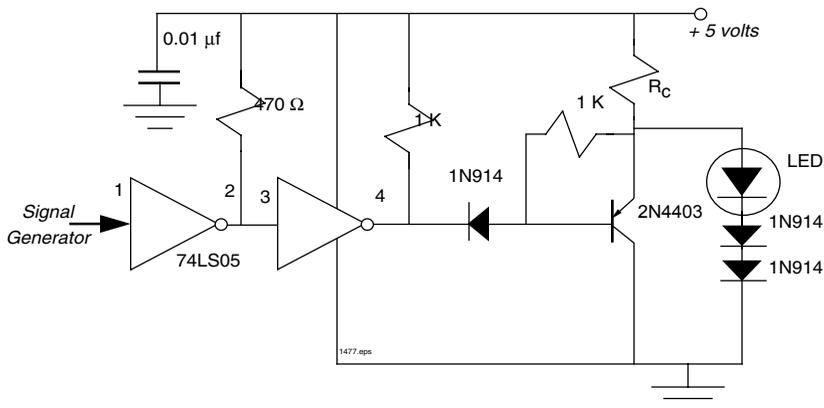

Figure 8.5 Ten-megabit push-pull LED drive circuit.
1. Remove the LED drive circuit from the breadboard and replace it with the circuit shown in **Figure 8.5**. Use the same value for R_C as used in **Procedure #1**.
Table 8.3 Measured data for the high-speed LED drive circuit shown in Figure 8.5.